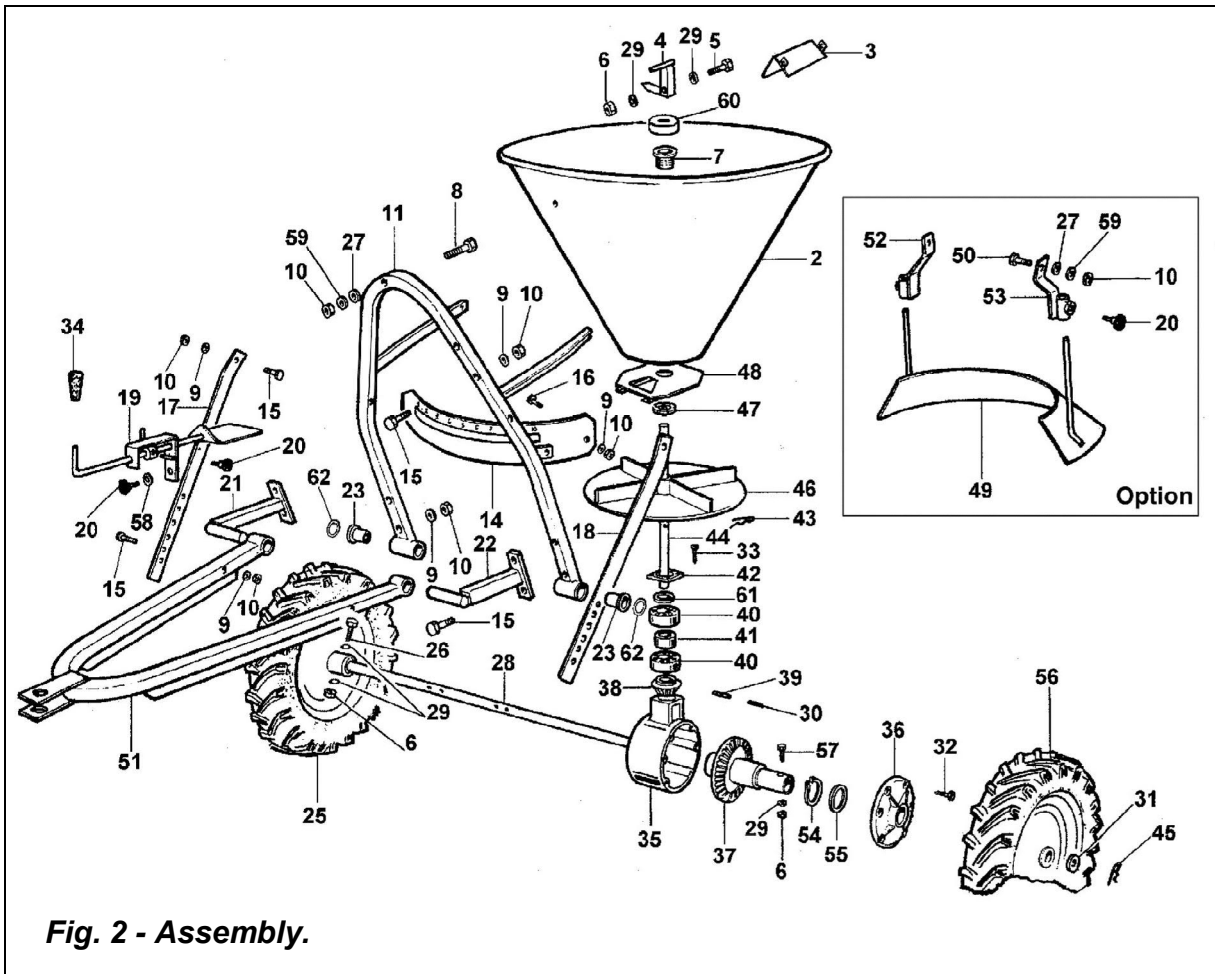

Fig. 2 - Assembly.
1. Locate the hopper (**see #2, fig. 2**), the mobile shutter (**#48, fig. 2**), the threaded bushing (**#7, fig. 2**) and the M30 nut (**#47, fig. 2**). Slide the threaded bushing (**#7, fig. 2**) through the bottom hole of the hopper (**#2, fig. 2**) and fasten the mobile shutter (**#48, fig. 2**) to it with the M30 nut (**#47, fig. 2**).
2. Fasten the guard (**#14, fig. 2**) onto the frame (**#11, fig. 2**) using the M8x16 bolts (**#16, fig. 2**), the Ø8 washers (**#9, fig. 2**) and M8 nuts (**#10, fig. 2**).
3. Slide the spreader disc (**#46, fig. 2**) and the hopper assembly over the outgoing shaft (**#44, fig. 2**) and use the M8x40 carriage bolt (**#8, fig. 2**), Ø8 fender washer (**#27, fig. 2**) and M8 nut (**#10, fig. 2**) to fasten the hopper to the frame (**#11, fig. 2**). Pin the spreader disc to the shaft with the hairpin cotter (**#43, fig. 2**).
4. Place stirrer (#4, fig. 2) and cover (#60, fig. 2) over the outgoing shaft (#44, fig. 2) and secure them using the M6x30 bolt (#5, fig. 2), the Ø6 washers (#29, fig. 2) and the M6 elastic stop nut (#6, fig. 2).
5. Place the stirrer guard (#3, fig. 2) inside the hopper (#2, fig. 2) and fasten with the two M8x20 carriage bolts (#50, fig. 2), Ø8 fender washers (#27, fig. 2) and M8 nuts (#10, fig. 2) that connect the sides of the frame (#11, fig. 2) to the hopper (#2, fig. 2).
6. Slide the flow control assembly (#19, fig. 2) into the slot of the mobile shutter (#48, fig. 2) and fasten to the guard (#14, fig. 2) with the adjustment knob (#20, fig. 2) and Ø8 washer (#58, fig. 2).
7. Assemble the wheels (#25 & 56, fig. 2) making sure that the side of the wheel hubs that has the hole is facing the inside of the spreader. Place the Ø28 shims (#62, fig. 2) on each side of the axle (#28, fig. 2) before inserting the wheels. Assemble the wheels (#25 & 56, fig. 2) on the axle (#28, fig. 2), followed by the Ø20 washers (#31, fig. 2) and secure them in place with the hairpin cotters (#45, fig. 2). On the right wheel (#25, fig. 2), insert the M6x45 bolt (#26, fig. 2) through the hole in the hub and axle, place the Ø6 washers (#29, fig. 2) on each side of the hub and secure it in place with the M6 lock nut (#6, fig. 2).
8. The towing hitch (#51, fig. 2) is attached to the frame with two hitch adjustment plates, one right (#17, fig. 2) and one left (#18, fig. 2). Attach the upper end of the hitch adjustment plate to the hole in the square tubing of the frame (#11, fig. 2) using the M8x40 bolts (#15, fig. 2). Use the M8x40 bolts (#15, fig. 2), the Ø8 washers (#9, fig. 2) and the M8 nuts (#10, fig. 2) to secure the lower end of the hitch adjustment plates (the one with the series of holes) to the towing hitch (#51, fig. 2). Select the hole which best fits the pulling unit drawbar enabling the spreader to run parallel to the ground.
9. To attach the hitch connection plates (#21 & #22, fig. 2), slide the round stock ends of these two plates through the tubes which are welded to the ends of the towing hitch (#51, fig. 2). Bolt the hitch connection plates (#21 & #22, fig. 2) to the outer end of the frame (#11, fig. 2) using M8x40 bolts (#15, fig. 2), Ø8 washers (#9, fig. 2) and M8 nuts (#10, fig. 2). Make sure that the two hitch connection plates (#22, fig. 2) are angled upwards and the stock ends are pointed inwards after assembly.